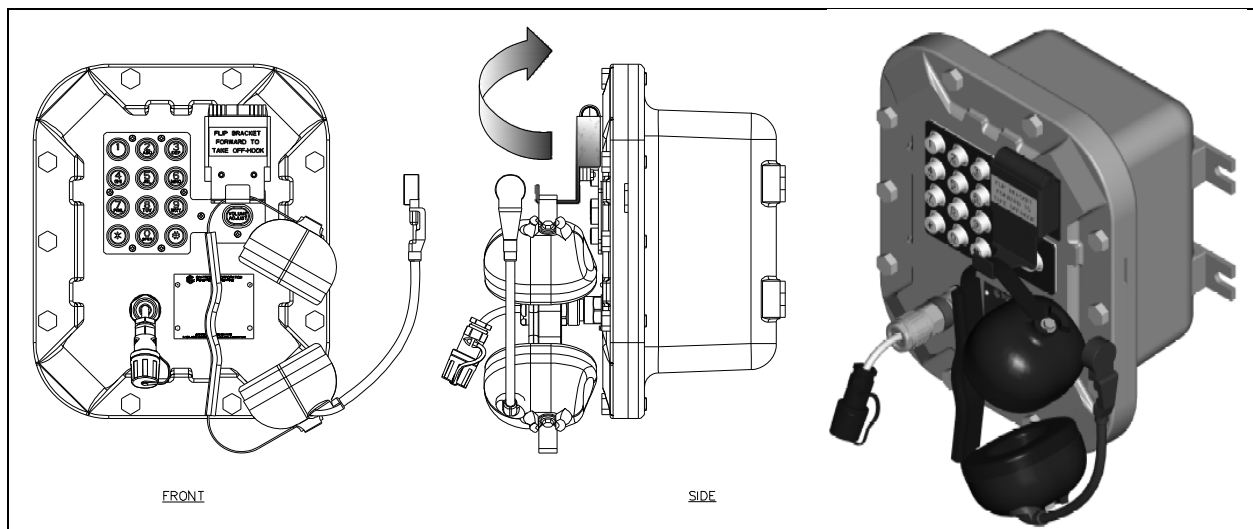

Figure 6. Model 352-703 (On-hook)
3. Screw the two ends together (see Figure 6).